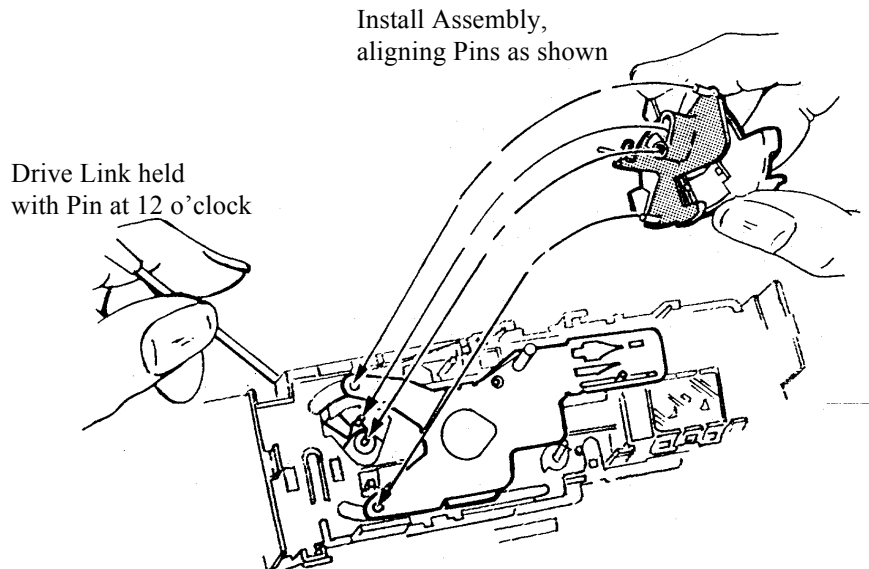

Figure 4-19f Reassembling Walking Beam to
- d. Hold Drive Link from the rear so that its Walking Beam pin is at 12 o'clock. Place Walking Beam on its pivot pin on the Baseblock, and at the same time engage top and bottom shutter-actuating pins on the Walking Beam in the upper and lower Shutter Blade holes. (Hold Walking Beam so that both its shutter-actuating pins, when viewed from the rear, are vertically aligned -- i.e., at 6 and 12 o'clock. (See Figure 4-19f.)